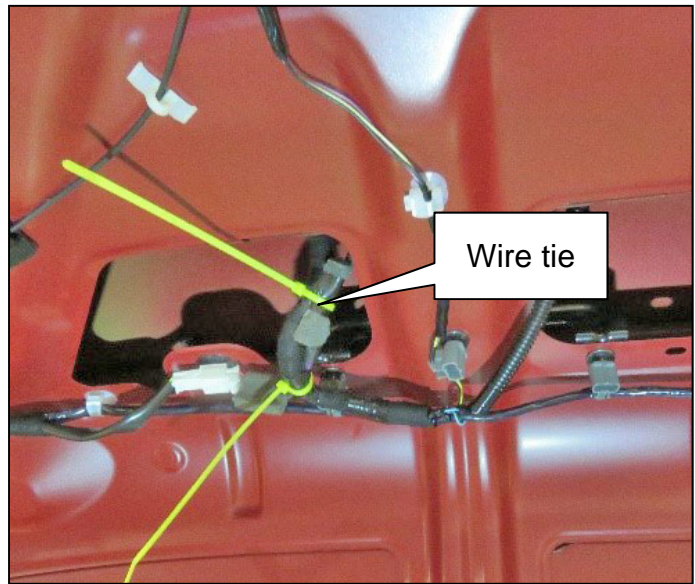

Figure 16
16. Place one (1) wire tie securely around the wiring harnesses where they were taped together in step 11 on page 8, as shown in Figure 16.